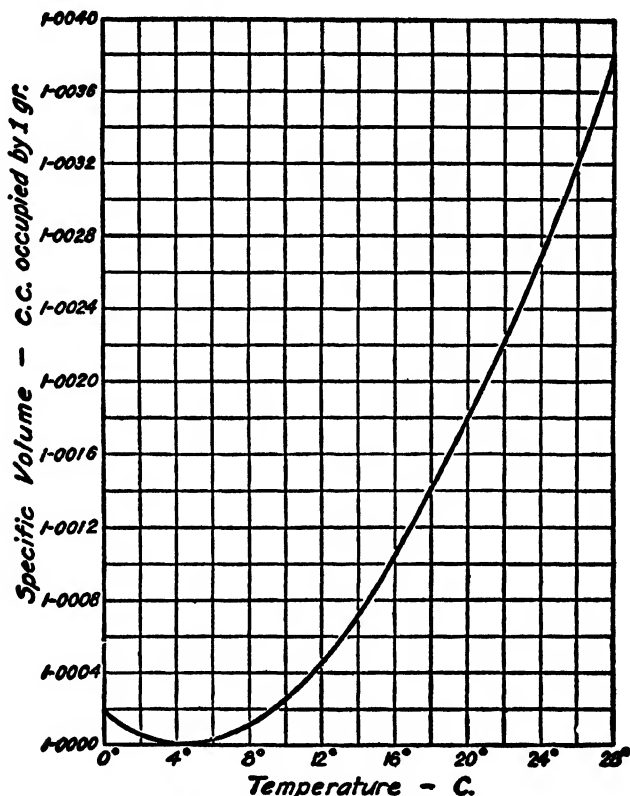

Fig. 7. Change of Volume of Water with Temperature.
a. In Exercise 6 c you determined the density of water by means of your burette. Is your result an exact value, or is it only a rough approximation? Refer to the temperature of the water recorded in your notes, and now compare your experimental result with that indicated by the curve\* in Fig. 7. Suppose that your error in each reading of the meniscus in the burette might amount to 0.03 c.c., could that account for the whole difference between your value and the accepted one? What other errors might occur in the course of the experiment, and what are their respective magnitudes? Are you sure that your burette is correctly graduated?
in 1 c.c.) of benzene at  $25^{\circ}$ , multiply the specific gravity, as obtained above, by the density of water at that temperature (0.9971, see Fig. 7).